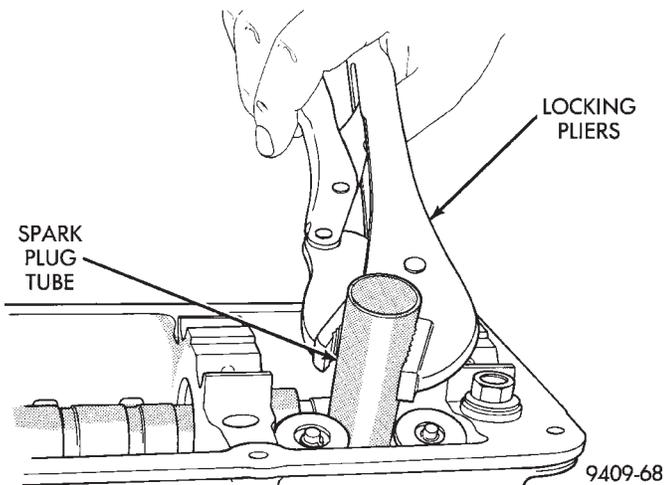

Fig. 11 Servicing Spark Plug Tubes
- (1) Remove valve cover. Refer to procedure outlined in this section.
- (2) Using locking pliers remove the tube from the cylinder head (Fig. 11). Discard old tube.